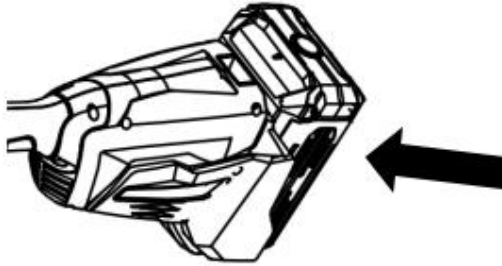

Fig 8
1. Put the adapter into the machine (Fig 8), adapter is sold separately.